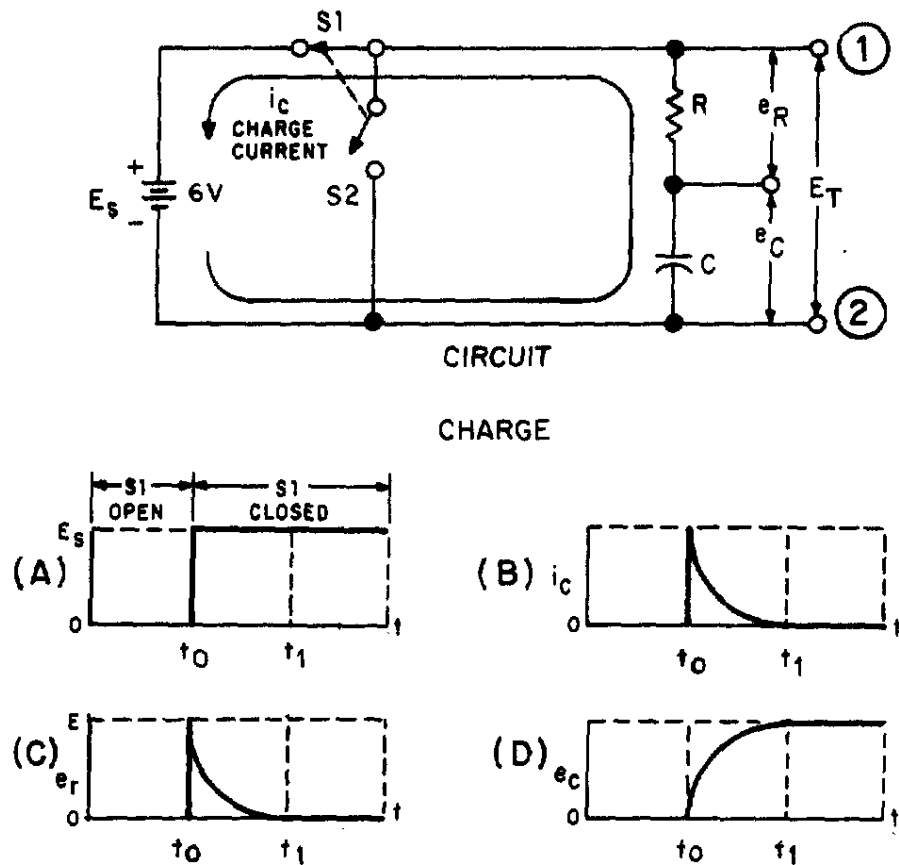
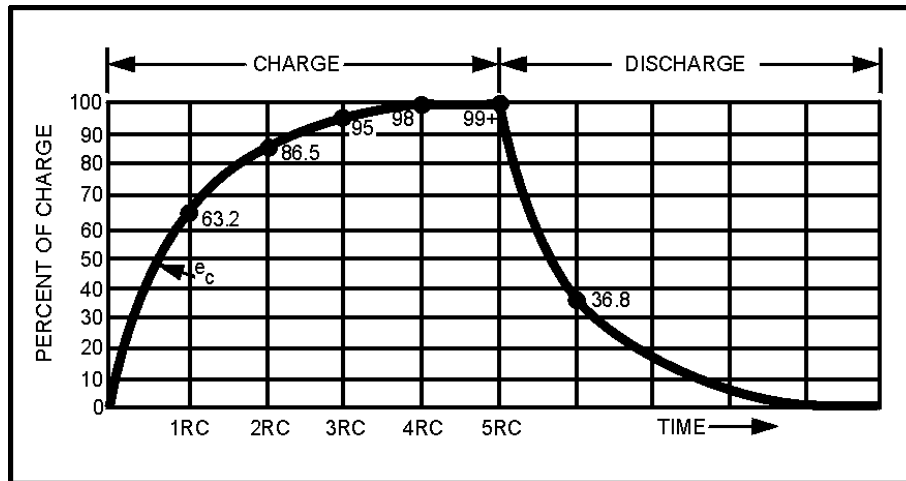

Figure 3-9.—Charge of an RC series circuit.
Figure 3-11.—RC time constant.
A voltage divider containing resistance and capacitance is connected in a circuit by means of a switch, as shown at the top of figure 3-9. Such a series arrangement is called an RC series circuit.
When switch S1 of the circuit in figure 3-9 is closed at  $t_0$ , the source voltage ( $E_s$ ) is instantly felt across the entire circuit. Graph (A) of the figure shows an instantaneous rise at time  $t_0$  from zero to source voltage ( $E_s = 6$  volts). The total voltage can be measured across the circuit between points 1 and 2. Now look at graph (B) which represents the charging current in the capacitor ( $i_c$ ). At time  $t_0$ , charging current is MAXIMUM. As time elapses toward time  $t_1$ , there is a continuous decrease in current flowing into the capacitor. The decreasing flow is caused by the voltage buildup across the capacitor. At time  $t_1$ , current flowing in the capacitor stops. At this time, the capacitor has reached full charge and has stored maximum energy in its electrostatic field. Graph (C) represents the voltage drop ( $e$ ) across the resistor ( $R$ ). The value of  $e_r$  is determined by the amount of current flowing through the resistor on its way to the capacitor. At time  $t_0$  the current flowing to the capacitor is maximum. Thus, the voltage drop across the resistor is maximum ( $E = IR$ ). As time progresses toward time  $t_1$ , the current flowing to the capacitor steadily decreases and causes the voltage developed across the resistor ( $R$ ) to steadily decrease. When time  $t_1$  is reached, current flowing to the capacitor is stopped and the voltage developed across the resistor has decreased to zero.
The time required to charge a capacitor to 63 percent (actually 63.2 percent) of full charge or to discharge it to 37 percent (actually 36.8 percent) of its initial voltage is known as the TIME CONSTANT (TC) of the circuit. The charge and discharge curves of a capacitor are shown in figure 3-11. Note that the charge curve is like the curve in figure 3-9, graph (D), and the discharge curve like the curve in figure 3-9, graph (B).
The graphs shown in figure 3-11 and 3-12 are not entirely complete. That is, the charge or discharge (or the growth or decay) is not quite complete in 5 RC or 5 L/R time constants. However, when the values reach 0.99 of the maximum (corresponding to 5 RC or 5 L/R), the graphs may be considered accurate enough for all practical purposes.